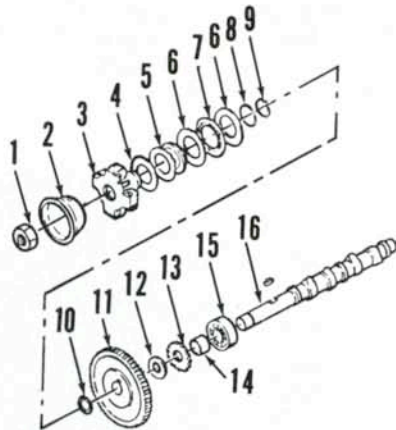
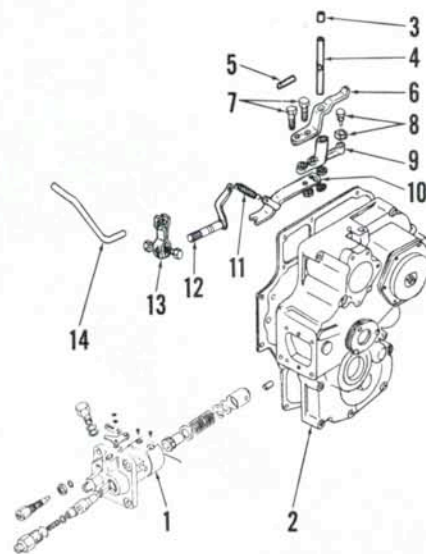

Fig. 132—Governor flyweights and related components are located on end of engine camshaft on 1100, 1110, 1200 and 1300 models.
Fig. 133—Exploded view of timing gear case showing governor linkage typical of 1100, 1110, 1200 and 1300 models.
70. The governor flyweights are located on the forward end of engine camshaft. The governor control linkage is located inside timing gear case. To service governor linkage or flyweights, refer to paragraph 33 for removal of timing gear case. Refer to Fig. 132 for exploded view of flyweights and associated parts. Refer to Fig. 133 for exploded view of linkage.